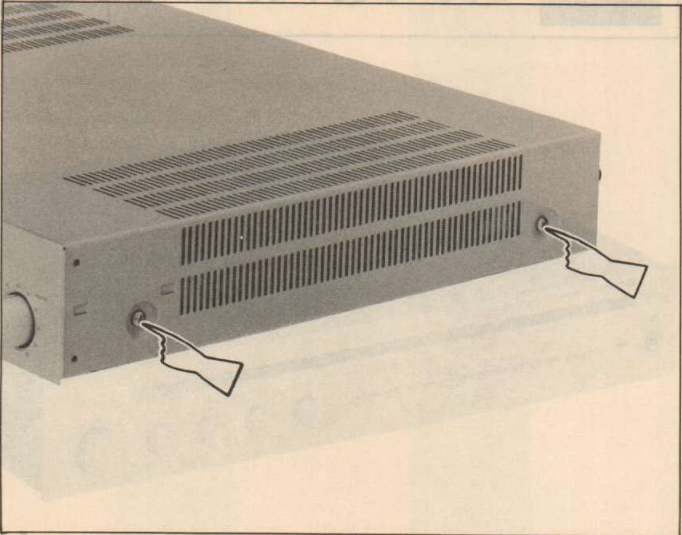

Figure 4-1
- 1) To remove the cabinet: (See Figure 4-1)